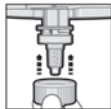
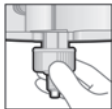

Fig. 3
Fig. 4.1
5. When the mixing tip is in the correct position (Fig. 3), push the Dynamix fixation ring over the mixing tip until it stops and turn it clockwise (1/4 turn) until it is securely locked in place. (Figs. 4.1, 4.2 and 5)